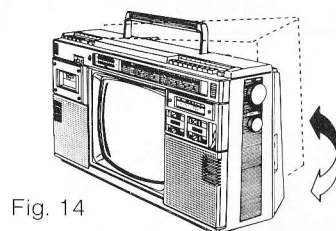

Fig. 14
2. LW/MW Ferrite-Core Antenna This antenna is highly directional. For the best reception on LW or MW band, slowly rotate the set and compare the received sound as shown in Fig. 14. Also, this antenna is always connected.